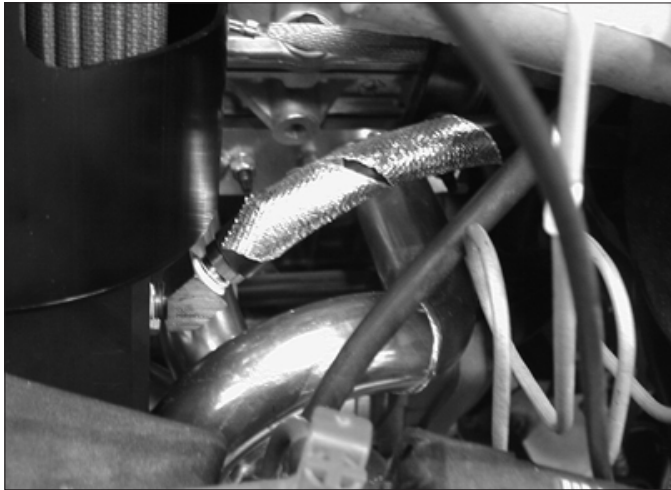

Fig. 12-1
- A. Install the supplied 45° fitting and position to provide the maximum clearance between the headers and the vent line. (See Fig. 12-1.)